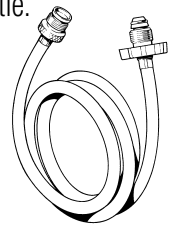

Figure 9.
6. If you do not have a propane system on board, we suggest you buy a 10–20 lb. propane tank. As you will be keeping it on deck, there is minimal danger. Order a 6' or 8' hose, Model 3837762 or Model 3290244, to connect the tank to the barbecue (Figure 9). The barbecue will work just as well with a portable throwaway propane bottle.